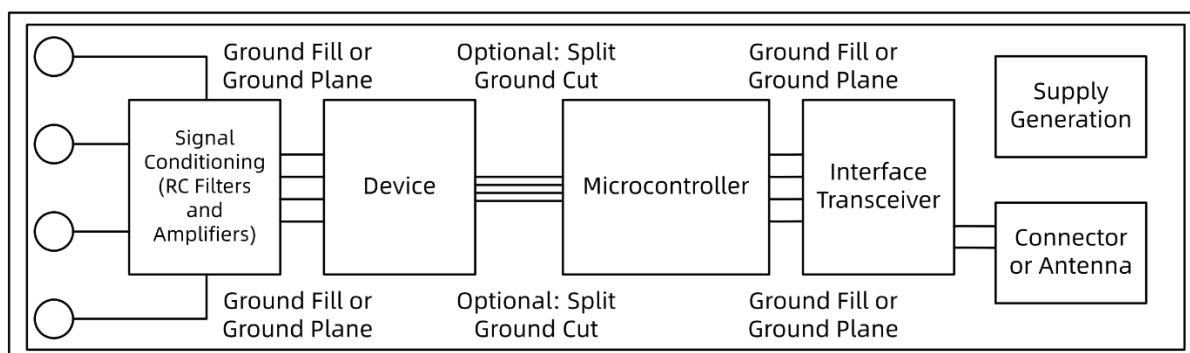

Figure 13. System Component Placement
Employ best design practices when laying out the printed circuit board (PCB) for analog and digital components. For optimal performance, separate analog components [such as ADCs, amplifiers, references, digital-to-analog converters (DACs), and analog MUXs] from digital components [such as microcontrollers, complex programmable logic devices (CPLDs), field programmable gate arrays (FPGAs), radio frequency (RF) transceivers, universal serial bus (USB) transceivers, and switching regulators]. Figure 13 shows an example of good component placement. While Figure 13 provides a good example of component placement, the optimal placement for each application depends on the geometry, components, and PCB manufacturing capabilities employed. That said, no one layout will work perfectly for every design, and careful consideration must always be used when designing with any analog component.